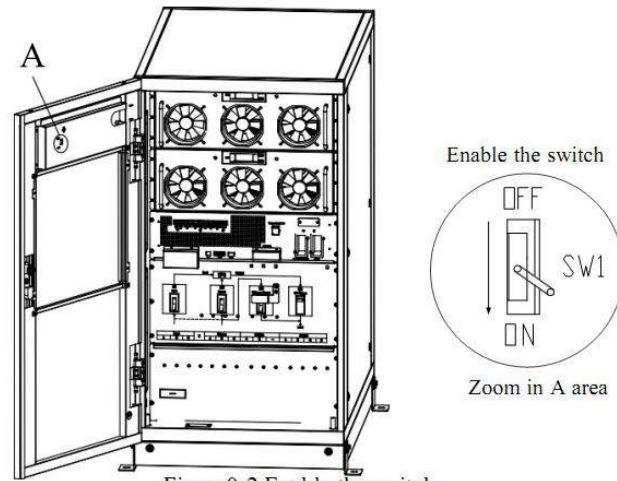

Figure0-2 Enable the switch
- 2) Press and hold the BYP key on the operator control panel for longer than two seconds and the system transfers to bypass mode. This needs to enable the switch behind the front door. As shown in Figure0-2.